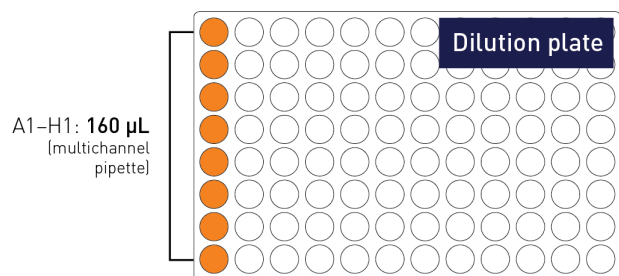

Fig. 1 Dispense CHO HCP ProteinSEQ™ diluent (shown in plate format)
- Dispense 160 µL CHO HCP ProteinSEQ™ Diluent to each of the eight tubes or plate wells (see Figure 1 on page 1).